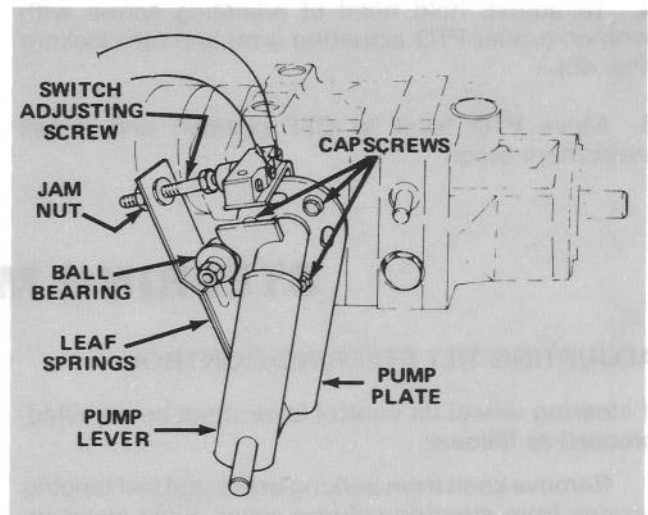

Figure 44
1. Park vehicle on a level surface and turn engine off. Apply the parking brake, tip seat forward and actuate pump lever (Fig. 44) to assure assembly is properly seated and operating freely. Correct any discrepancy.
6. Because the wheel is rotating, the pump plate must be adjusted. But before adjusting the pump plate, move throttle to SLOW. If wheel is rotating forward, loosen capscrews and lightly tap bottom of pump plate counterclockwise (Fig. 44). By contrast, tap pump plate clockwise if wheel is rotating backward (Fig. 44). When wheel stops rotating, tighten capscrews holding pump plate against side of transmission. Verify the adjustment with throttle in SLOW and FAST position.
- A. Ball bearing is loose or worn out (Fig. 44).
- F. Weak or damaged leaf springs (Fig. 44). Replace.
- 2. Actuate the pump lever (Fig. 44) to ensure all parts are operating freely and seated properly.
- 3. Loosen jam nut. Rotate switch adjusting screw (Fig. 44) until there is a gap between head of screw and switch button.